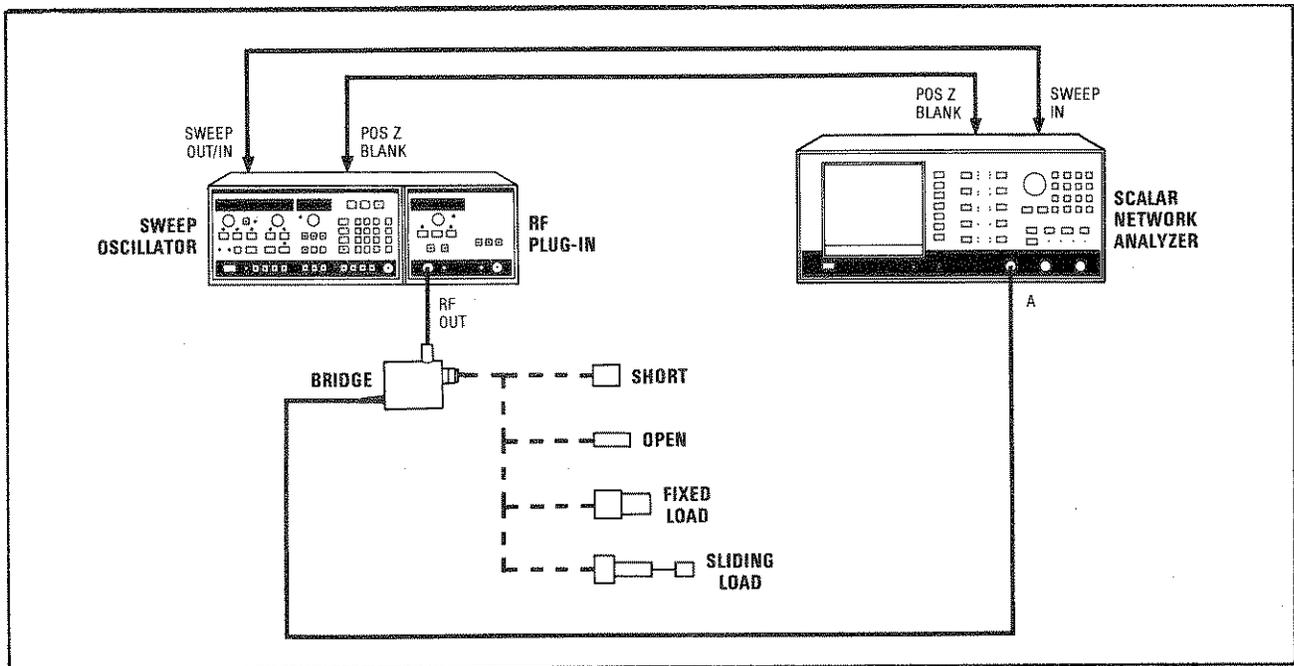

Figure 4-1. Directivity Test Setup
1. Connect the equipment as shown in Figure 4-1. Do not connect the fixed load or the sliding load at this time.